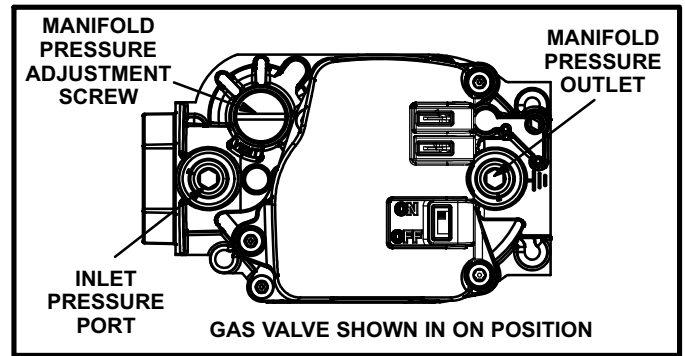

FIGURE 54
Gas Valve Operation (Figure 54)
- 6 - Move gas valve switch to **OFF**. See figure 54.
- 8 - Move gas valve switch to **ON**. See figure 54.